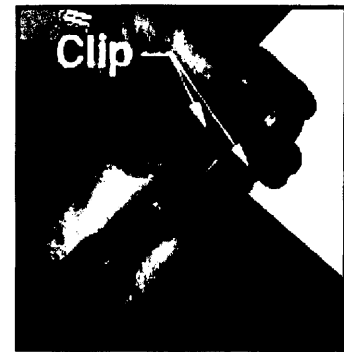

Figure 1
9. Disassemble the two halves of the bulb socket by opening the clips on each side. See Figure 1.